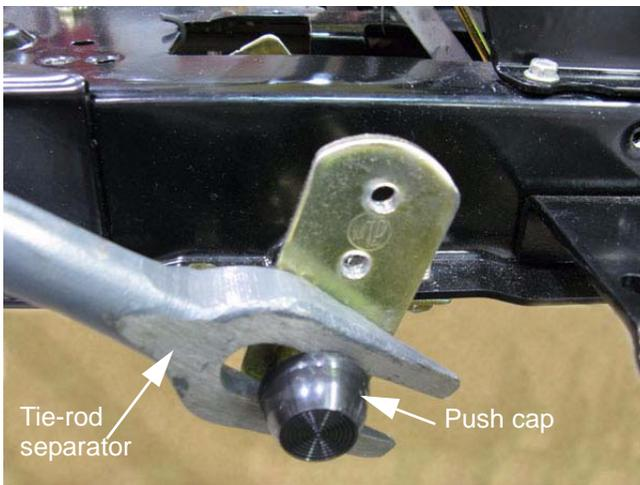

Figure 6.24
9. Remove and discard the push cap that holds the drive control pedal shaft onto the clutch/brake shaft. See Figure 6.24.